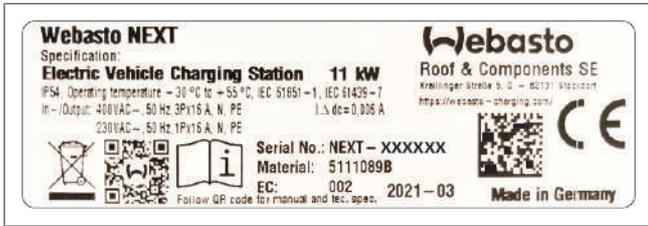

Fig. 1 Example type plate for Webasto Next (11kW version)
3. Enter the details of your charger in the following format. This information can be found on the type plate on your charger, for example (cf. Fig. 1):